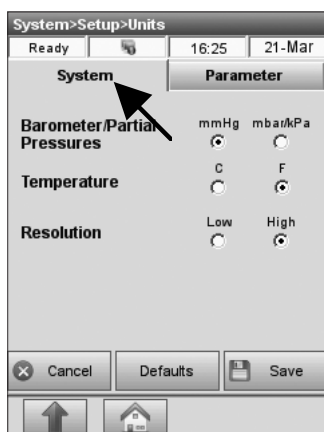

Fig. 3-77 System
3. In the **<System>** screen, select the units for the displayed parameters (Fig. 3-77).